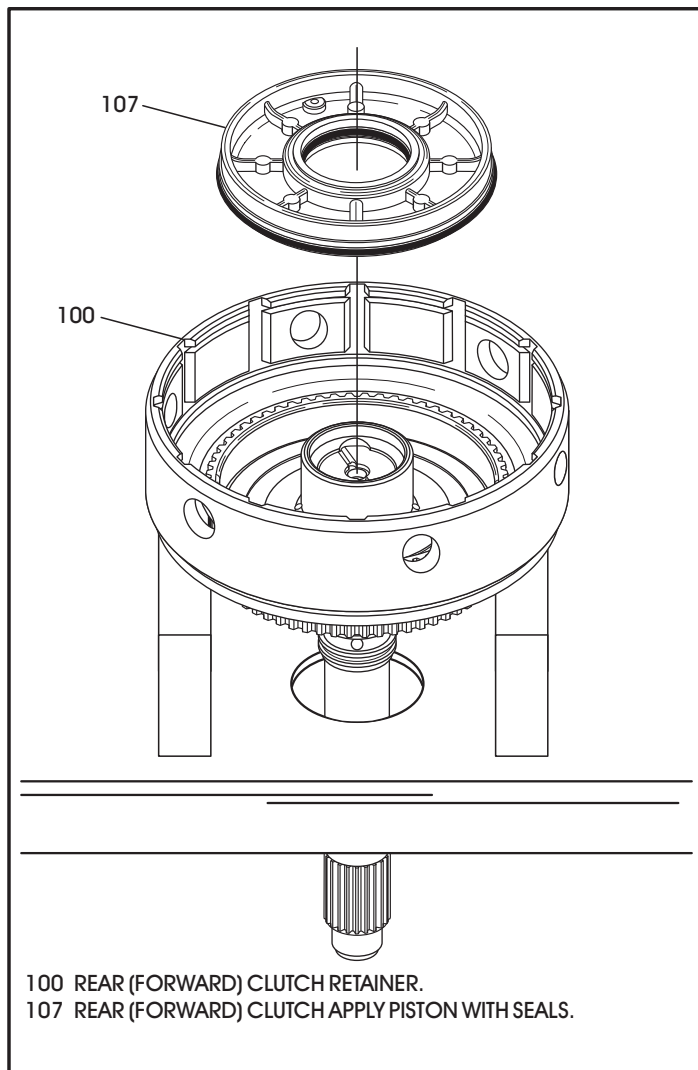

Figure 125
8. Install the completed forward clutch piston, as shown in Figure 125, with a twisting motion.